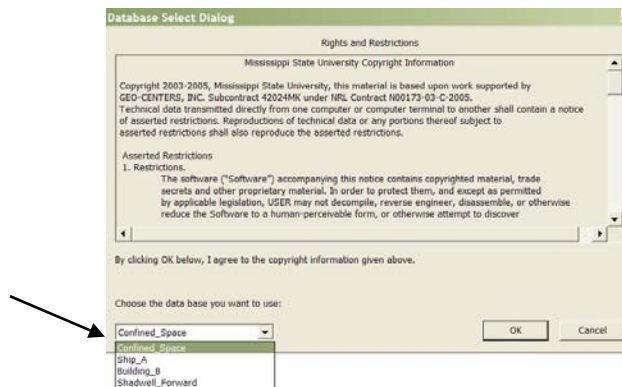

Figure 3-2 Database selection
Step 1: The Database Selection dialog (shown in Figure 3-2) pops up. From the drop down menu, select the Confined Space database (Confined_Space) and click OK